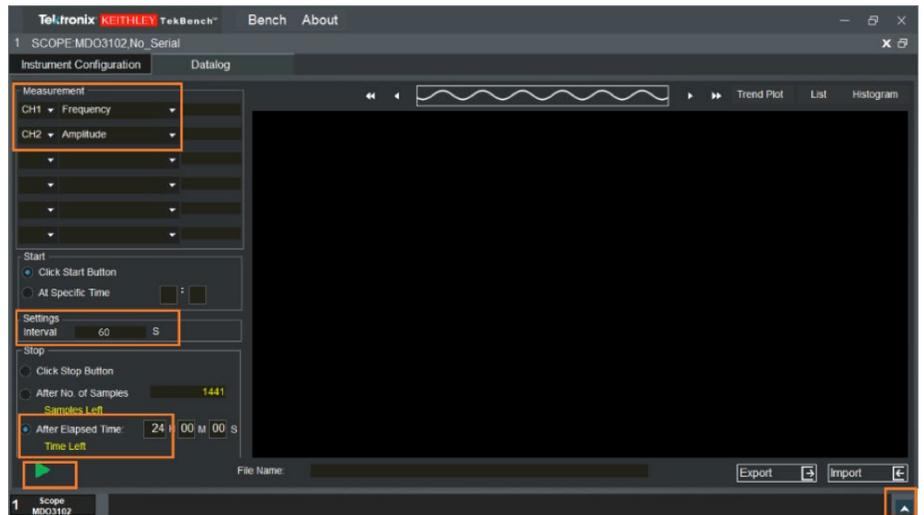

Figure 4: Measurement parameter setup.
4. In the measurement data logging interface (**Figure 4**) click the arrow in the lower right corner to hide the instrument icon, then set up the measurement parameters as listed here:
Click the Start icon (the green arrow in **Figure 4**) to start measurement data logging; it will finish automatically after 24 hours.